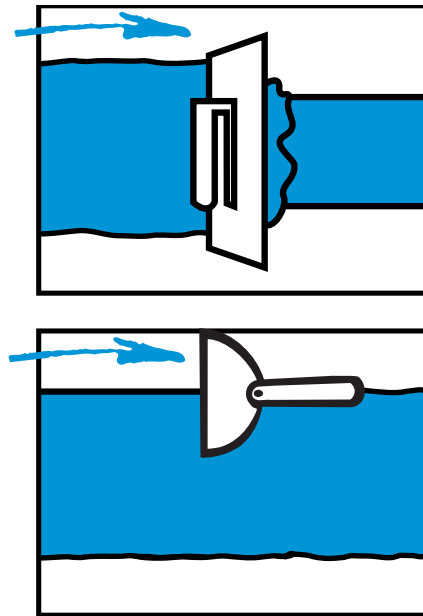
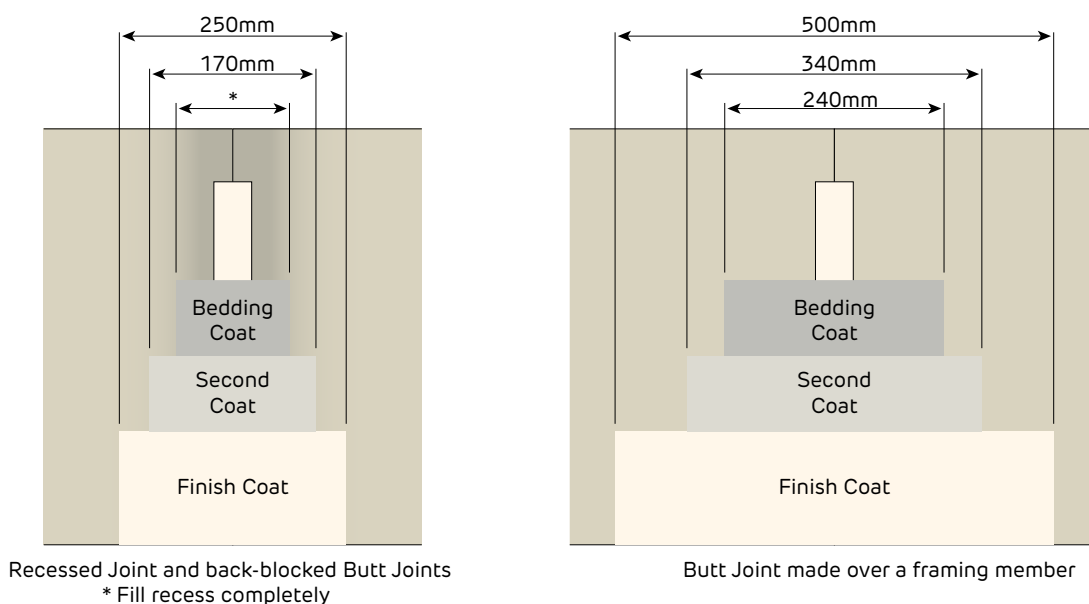

FIGURE 62 Second Coat
FIGURE 65 Minimum Coat Widths After Sanding
- > Using a broadknife, evenly fill the recess with compound [Refer to Figure 65 for minimum coat widths]
- > Using a 200mm trowel to apply a second coat of compound [Refer to Figure 62 and to Figure 65 for minimum coat widths]
- > Use a 280mm trowel to apply a third coat of compound [Refer to Figure 63 and to Figure 65 for minimum coat widths]